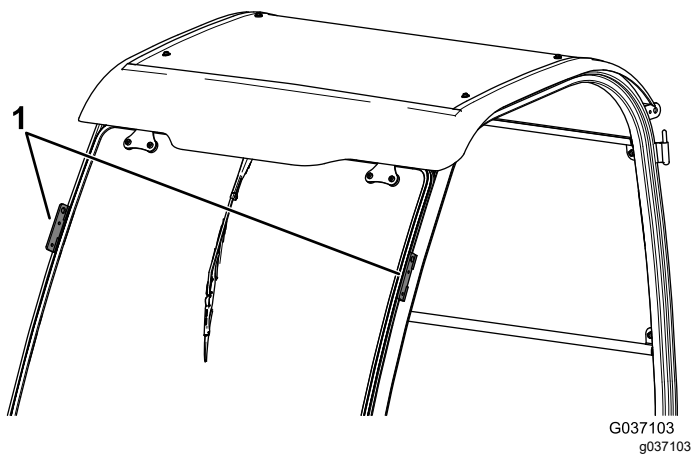

Figure 11
- Lift the cab frame using the lift points and place it on the machine (Figure 11).